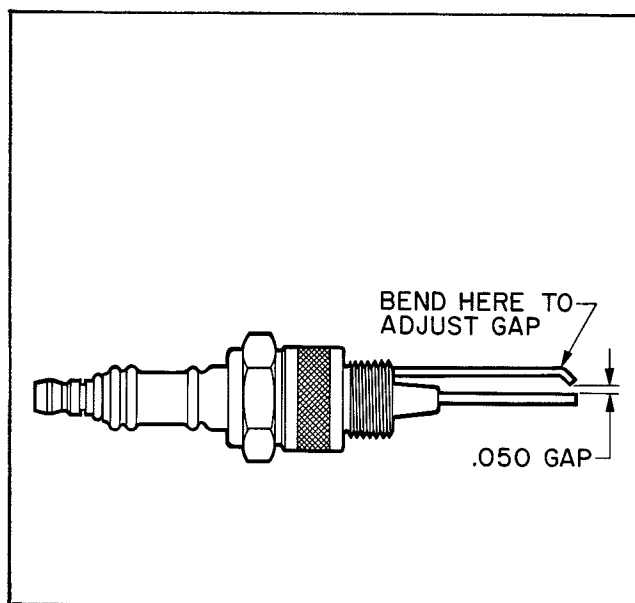

Figure 8. Spark Plug Gap Setting
3. To ground a non-grounded outlet, install a bare 14-gauge copper wire from the outlet box (figure 8) to a metal rod which has been driven at least 18 inches into the ground. Use a metal grounding clamp when attaching the wire to the metal rod.
2. Remove the spark plug, check the gap between the electrodes. The gap must be within the limits shown in figure 8.